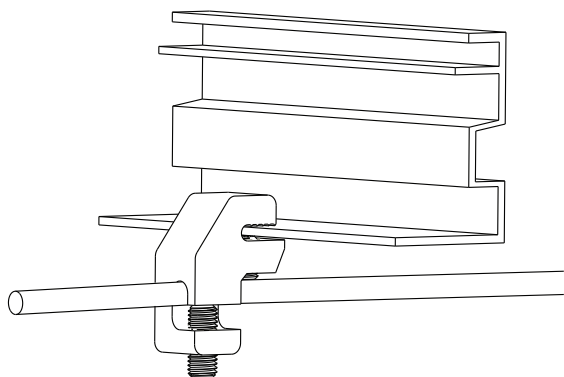

FIGURE 3
- 2). Secure conductor: Torque 'Conductor Mount Set Screw' using a 1/8" allen key or hex driver (See Figure 3).